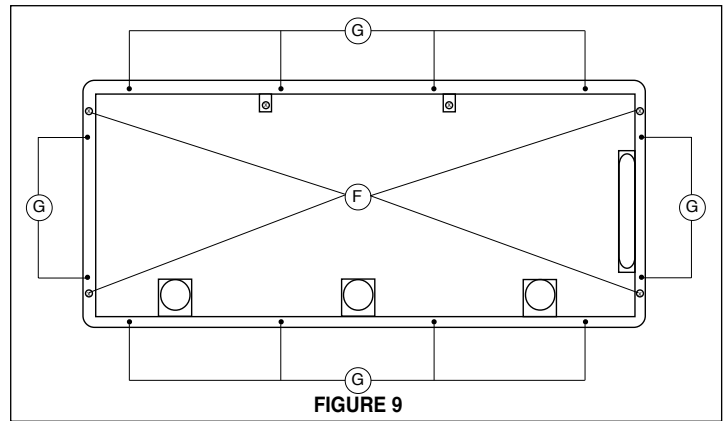

FIGURE 9
5. Fix the rangehood to the cabinet or custom hood using the four spring loaded brackets, two on each side of the rangehood. Using a philips screwdriver or drill, tighten the adjustment screws **(F in FIGURE 9)** until the brackets adhere tightly to the surface.
6. **IMPORTANT:** There are 12 holes **(G in FIGURE 9)** for screws (not provided) to reinforce the rangehood to your cabinet or custom hood. Use screws appropriate for the size and type of materials of your cabinet or custom hood.